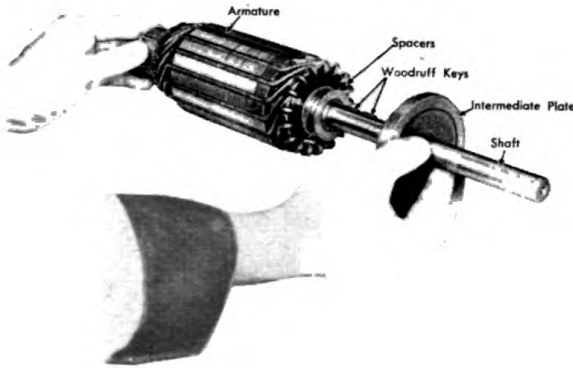

Figure 204. Removing Intermediate Plate & Thrust Washer.
G. Remove the intermediate plate and thrust washer from the armature shaft. See Figure 204.
A. Assemble the two 1" steel thrust washers on the drive end of the armature shaft and assemble the intermediate bearing on the shaft. See Figure 204.